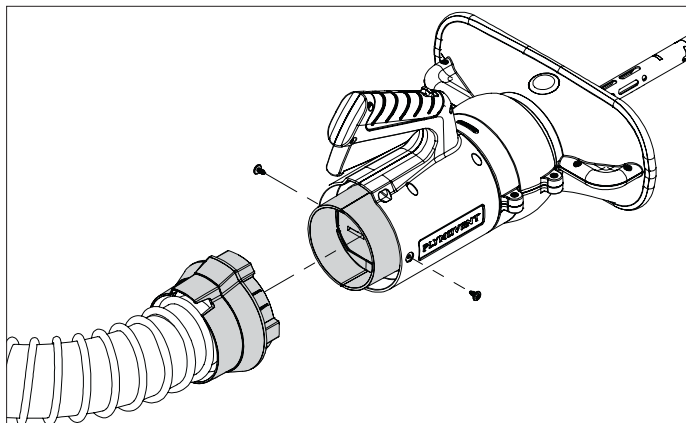

Fig. 4.8 Mounting the reducer to the Grabber
- Connect the reducer/increaser to the Grabber and fasten with the supplied screws (2x). Refer to fig. 4.8.
- Mount the reducer to the back side of the secondary Grabber. Fasten the reducer with the supplied screws in the designated holes in the Grabber. Refer to fig. 4.8.